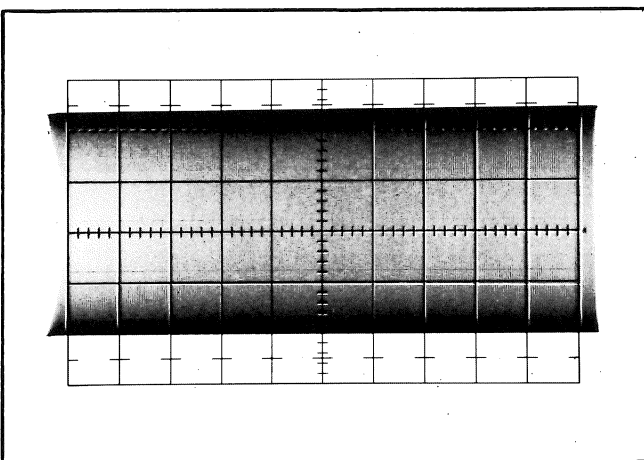

Fig. 5-8. Typical 50 Mc response, VARIABLE control maximum.
- Check—The signal amplitude should be 2.5 cm or more. See Fig. 5-8.